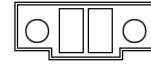

Fig. 16. Terminal block for connection to the inverter shutdown auxiliary contact of the manual bypass board.
- The SLC TWIN has a signal block through which it is possible to activate the shut down command for the UPS's inverter when closing the circuit. This normally open contact is intended for connection to an external manual bypass switch or disconnector. (see Fig. 16).